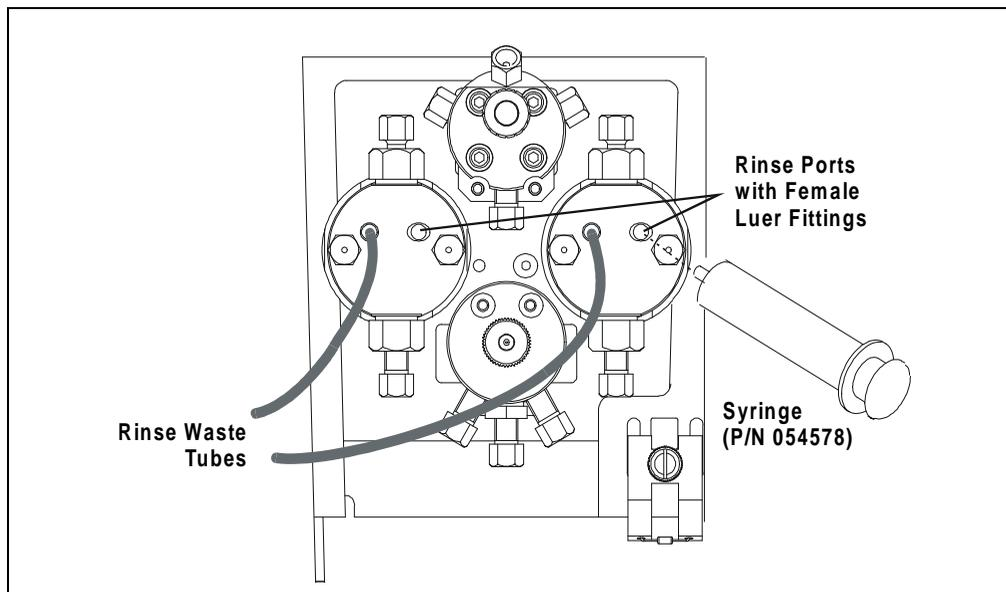

Figure 3-4. Rinsing the Pump Heads
1. Open the lower door of the IC20 and locate the rinse ports on the front of the pump heads (see Figure 3-4).